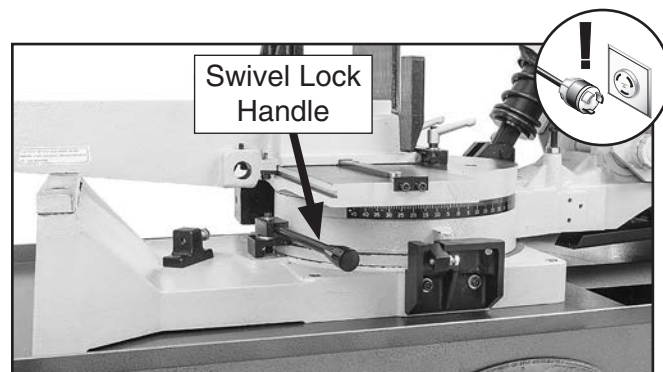

Figure 90. Swivel lock handle location.
3. Rotate swivel lock handle (see **Figure 90**) toward base.